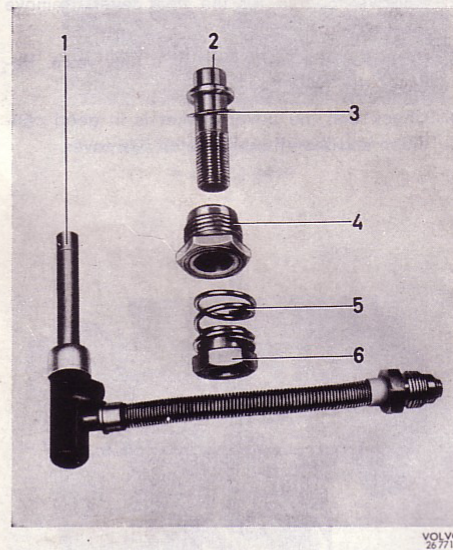

Fig. 28. A dismantled jet
Remove the adjusting nut and lock nut as well at the jet sleeve, see Fig. 28.
3. Fit the jet sleeve and lock nut, see Fig. 28. Push in the jet and centre it, see "Centering the jet".
4. Fit the spring for the adjuster nut and jet, see Fig. 28.
Place the carburettor with the flange with four holes downwards. Screw up the jet adjuster nut so that upper end of the jet reaches up above the bridge. Loosen the lock nut (4, Fig. 28) and press the air valve against the bridge and also move it back and forth a couple of times. Tighten the lock nut carefully and check the centering by lifting the valve 5–6 mm (1/4") from the bridge and then release it. The valve should then, quite audibly, hit the bridge (jet).